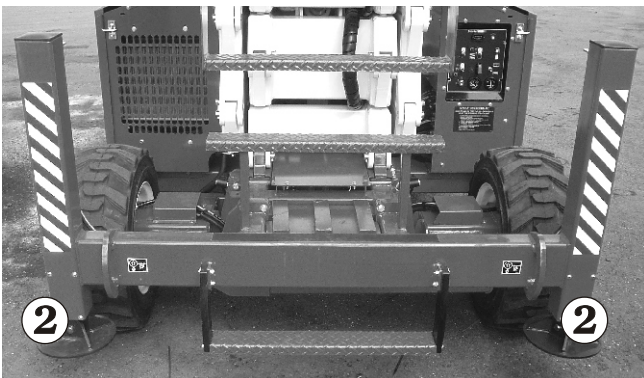

Figure 8.21
2. Pull and hold the **Stabiliser** switches **1** (see Figure 8.20) backward, one at a time, until all four stabiliser pads **2** (see Figure 8.21) contact the ground.